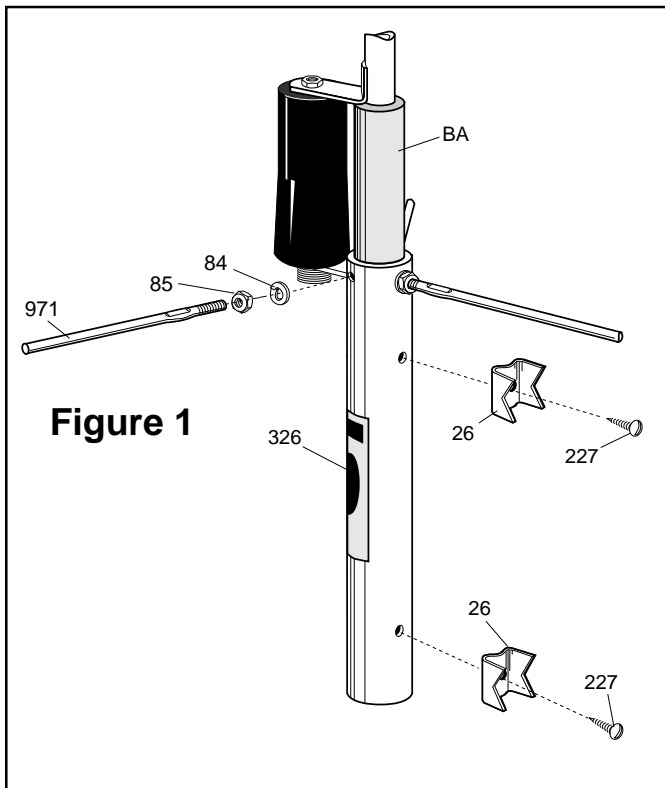
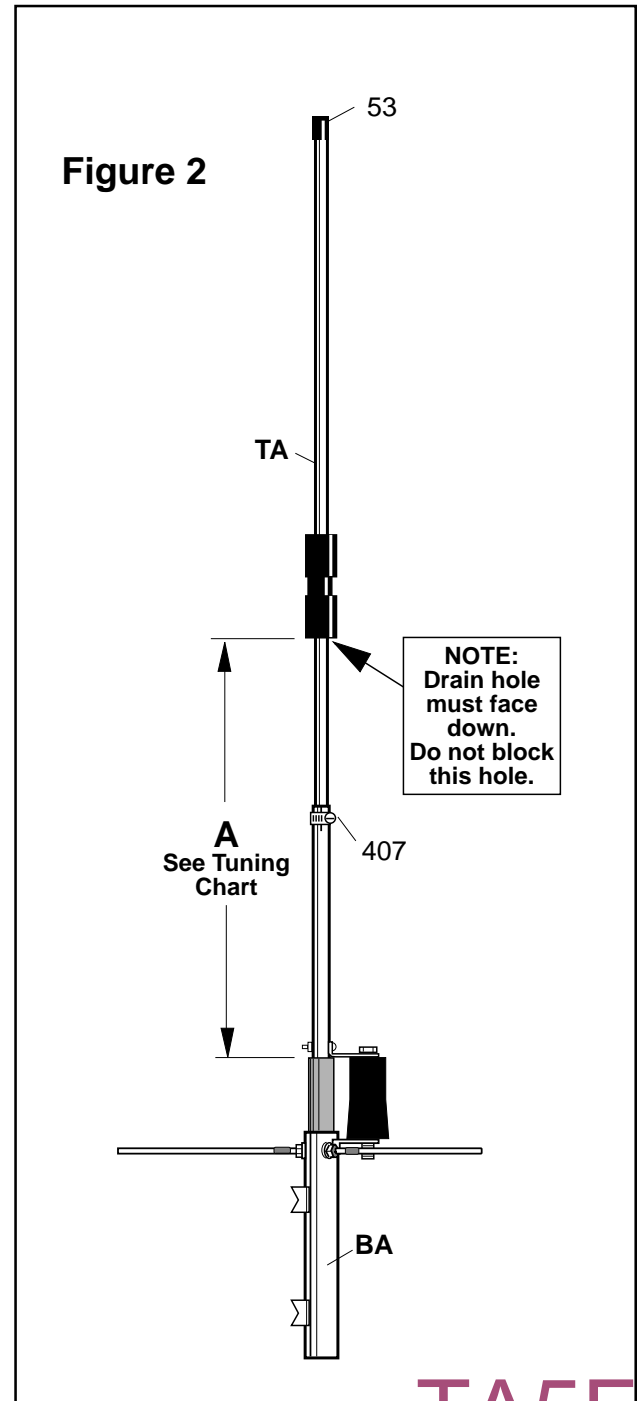

Figure 1
Figure 2
**WARNING:** THIS ANTENNA IS AN ELECTRICAL CONDUCTOR. CONTACT WITH POWER LINES CAN RESULT IN DEATH, OR SERIOUS INJURY. DO NOT INSTALL THIS ANTENNA WHERE THERE IS ANY POSSIBILITY OF CONTACT WITH OR HIGH VOLTAGE ARC-OVER FROM POWER CABLES OR SERVICE DROPS TO BUILDINGS. THE ANTENNA SHOULD NOT BE LOCATED WHERE PEOPLE OR PETS CAN COME IN CONTACT WITH IT. THE ANTENNA, SUPPORTING MAST AND/OR TOWER MUST NOT BE CLOSE TO ANY POWER LINES DURING INSTALLATION, REMOVAL OR IN THE EVENT PART OF THE SYSTEM SHOULD ACCIDENTALLY FALL. APPLY THE ELECTRICAL SHOCK WARNING LABEL (326) TO A PROMINENT LOCATION ON THE ANTENNA BASE AS SHOWN ON FIGURE 1. FOLLOW THE GUIDELINES FOR ANTENNA INSTALLATIONS RECOMMENDED BY THE U.S. CONSUMER PRODUCT SAFETY COMMISSION AND LISTED IN THE ENCLOSED PAMPHLET.
With the dimensions shown in figure 2, the antenna should not require any tuning. If you decide to minimize the VSWR at your favorite operating frequency, insert a good quality 50 Ohm standing wave bridge as close to the antenna as possible. First check the forward power and then the reverse power. Keep away from the antenna when making these tests.
Thread the three ground radials (971) into the base section using the washers (84) and nuts (85) provided (figure 1). Insert all three radials (971) an equal amount until they touch each other inside the antenna base assembly (BA). Be very careful not to overtighten the radial rods or their clamping nuts (85). Over tightening may cause permanent unwarranted damage. Next place the worm clamp (407) on the top of the base section. Insert TA into BA and set to dimension A (figure 2) and tighten the clamp. Affix danger label (326) to base (figure 1). Attach aluminum brackets (26) with self tapping screws (227) as shown.